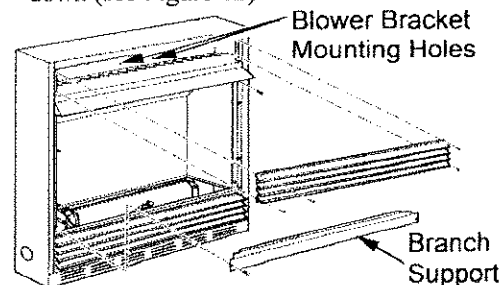
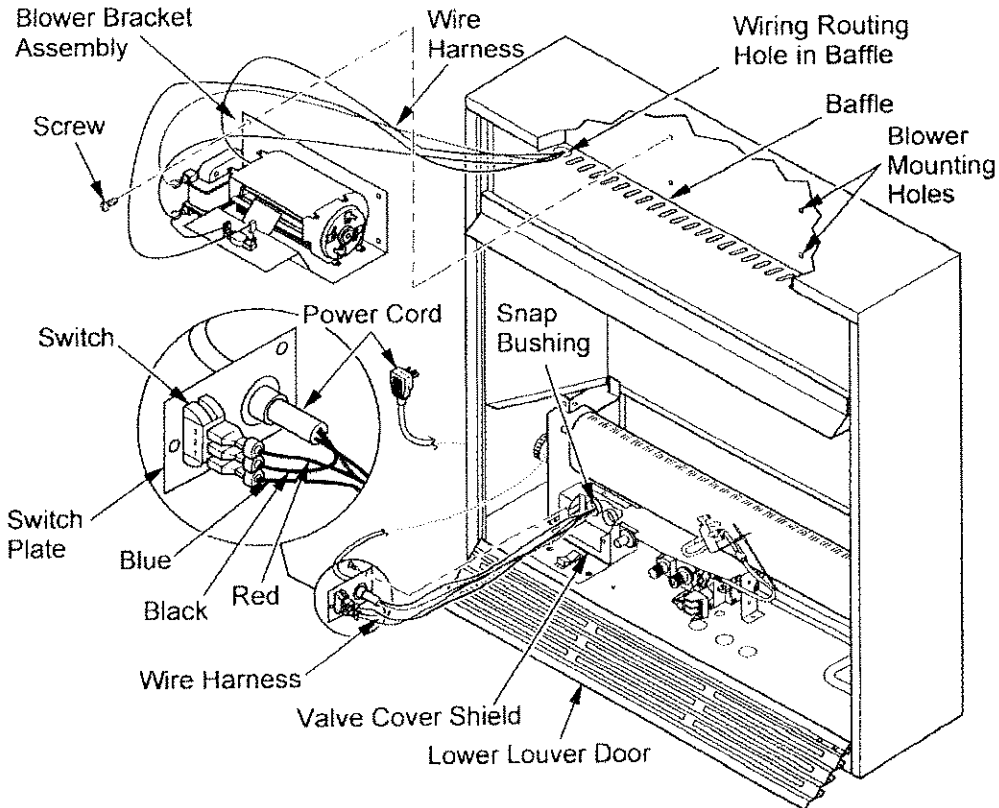
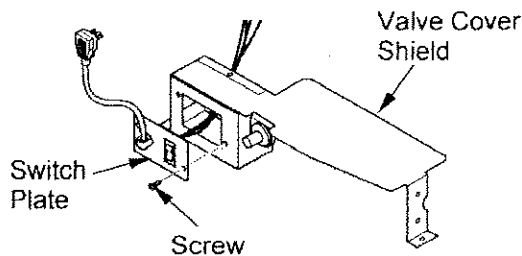

Figure 14 - Removing Top Louver and Branch Support
Figure 15 - Installing Blower Bracket Assembly
Figure 17 - Installing Switch Plate to Valve Cover Shield
- Remove 2 screws from each side of branch support and pull branch support out (see Figure 14).
- Remove 4 screws from upper louver assembly (see Figure 14). Save these screws.
3. Note the wire locations on back of AUTO/OFF/ON switch. The terminals on back of switch are numbered 1, 2, and 3. Carefully remove red wire from terminal 3 and blue wire from terminal 1. Black wire can remain on middle terminal 2 (see Figure 15).
5. In top of the fireplace cabinet, locate the four mounting holes on the outer casing. Align these four holes with those on the blower bracket assembly. Attach blower bracket assembly to the outer casing with 4 #10 screws provided (see Figure 15).
6. Route the wire harness through the hole in left side of baffle. Pull wire harness through lower opening on the side of the valve cover shield. (see Figure 15).
7. Insert the 4 wire harnesses into one of the round holes in the rear of the valve cover shield and through the rectangular hole in the front of shield (see Figure 15).
9. Install the switch plate on the valve cover shield with 2 #10 screws provided (see Figure 17). Route power cord out of the cabinet by inserting it through the bushing on the outer casing (see Figure 15, page 14). Plug fan kit into 120-Volt grounded power supply and test operation. *Note:* When switch is in the AUTO position, the fan will start after the fireplace has run for a few moments. The fan will continue to run for several moments after the fireplace has been turned off. When switch is in the ON position, the fan will run until turned to OFF. Reinstall upper louver assembly (see Figure 14, page 13) and branch support. Close lower louver door.
6. Reinstall upper louver assembly (see Figure 14, page 13) and close lower louver.